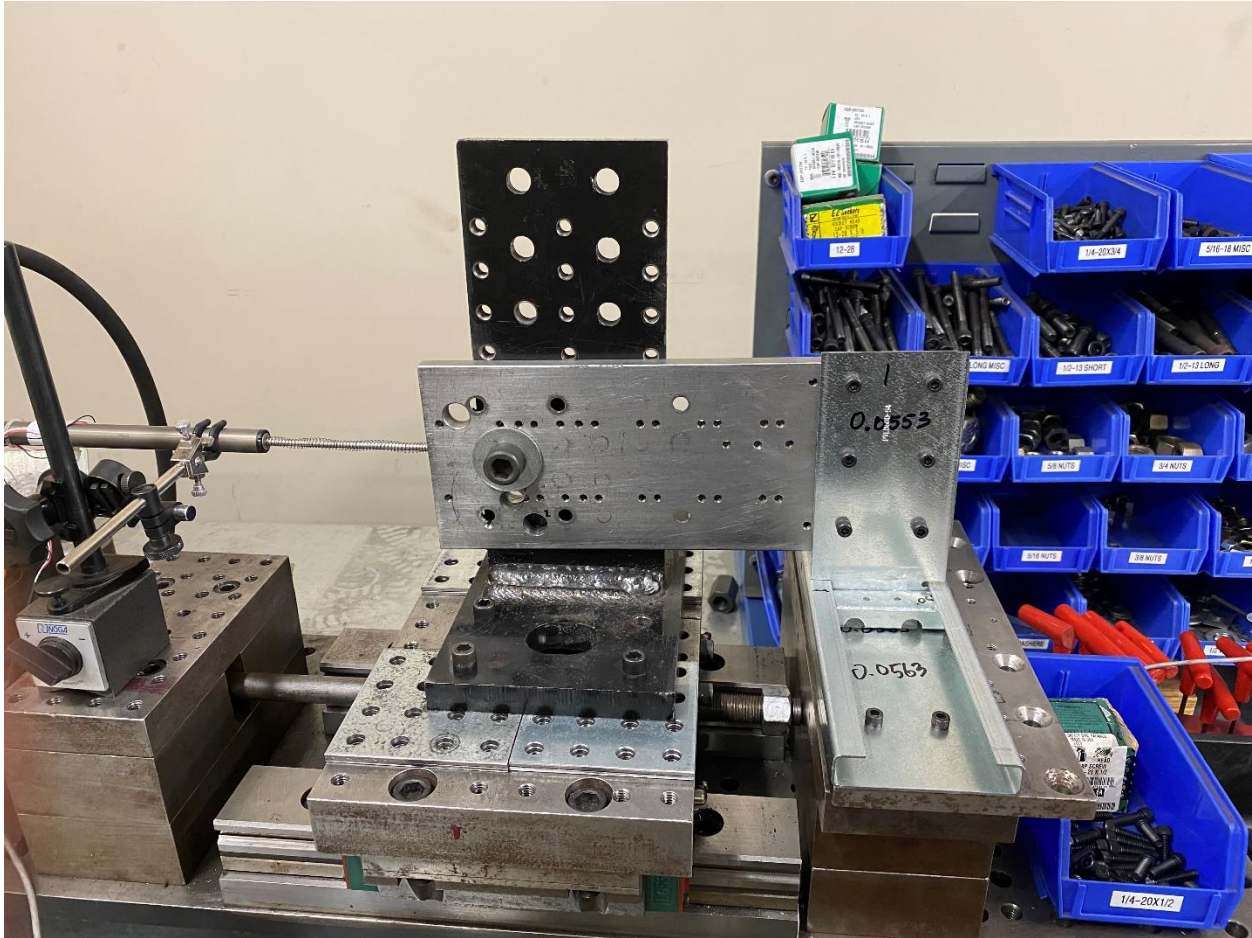
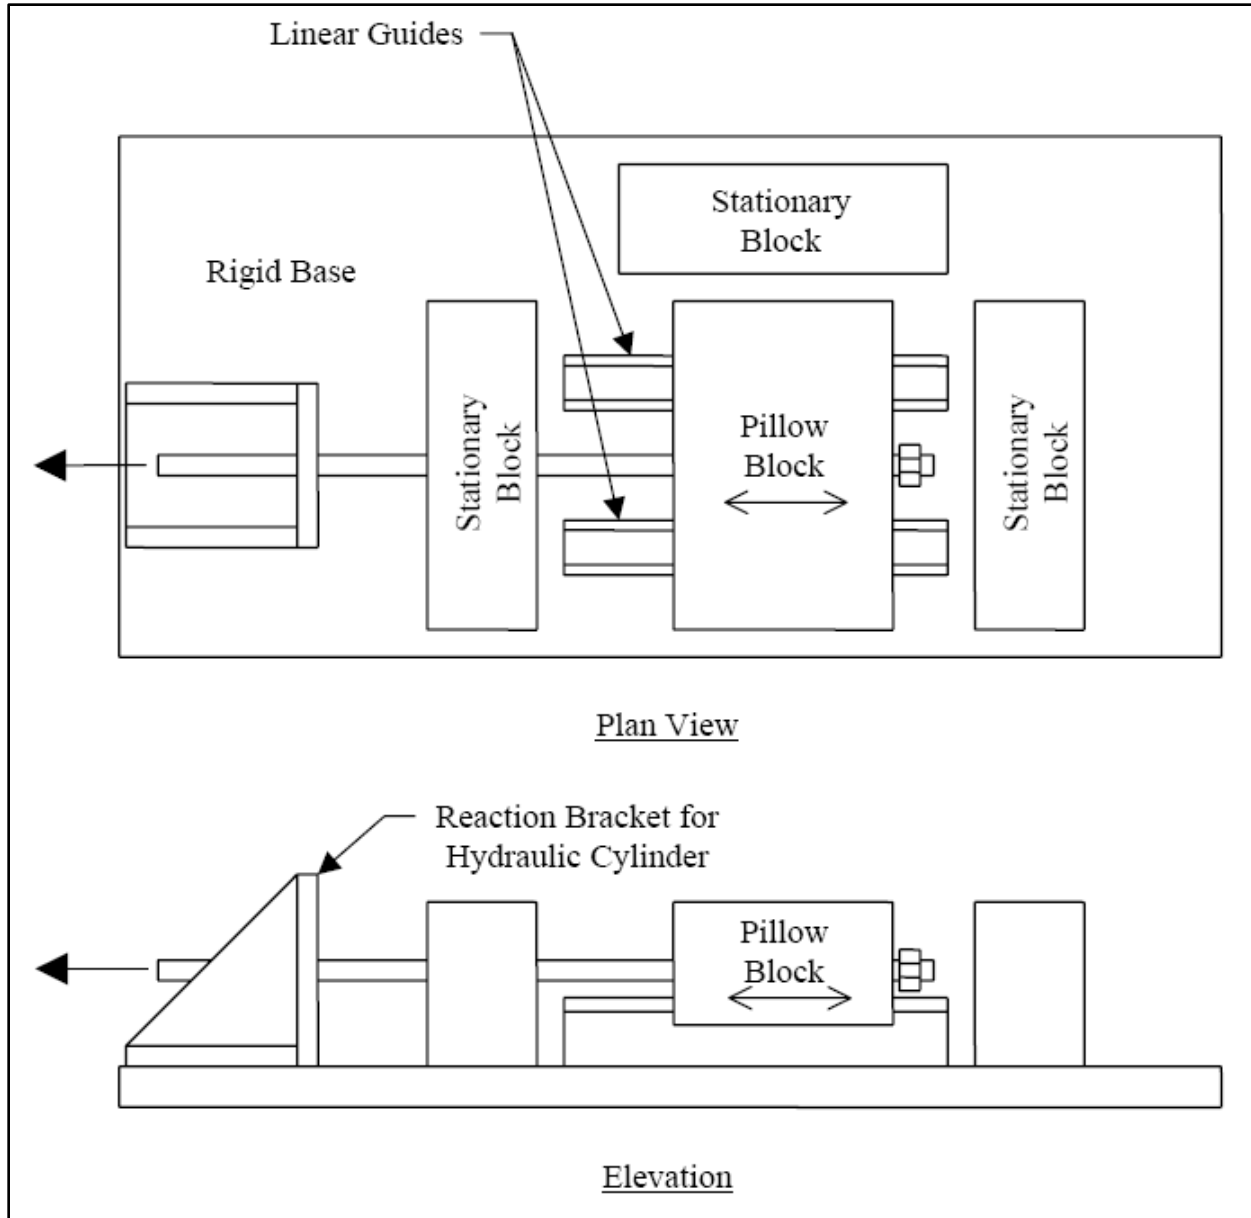

Figure 2: F3 Test Setup
Figure 3: Test Apparatus Diagram
1. Test setups illustrated by Figure 1, Figure 2, and Figure 3
In the F3 test, the track was attached to the horizontal face of a plate bolted down into a stationary block. The clip itself was attached to a large welded fixture and plate assembly which was firmly attached to a movable pillow-block, through which the load was applied. See Figure 2 for details.